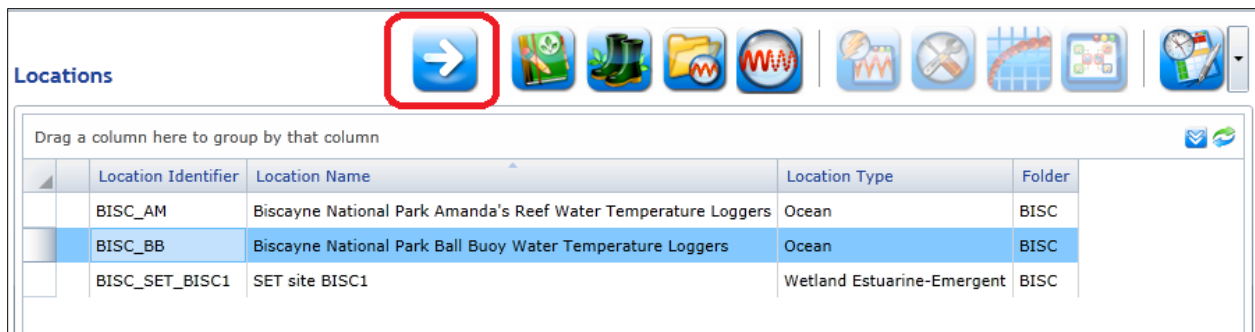

Figure 2. Screenshot showing the blue arrow icon highlighted in the Aquarius Springboard interface.
2. Once your site location is selected under the Location Folders pane, click the blue arrow icon to view the data sets for that site (Figure 2).